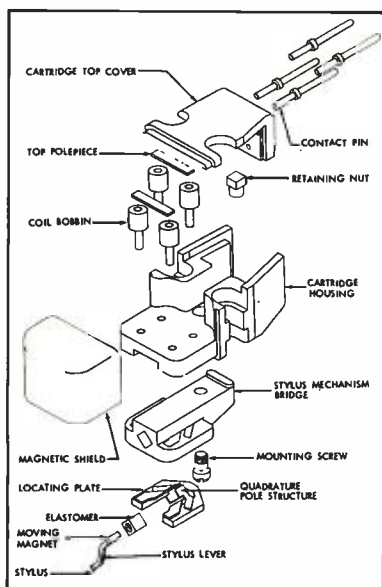

Fig. 1. Exploded view of the pickup.
Now to turn to Figs. 1 and 2 and an explanation of this form of a compatible stereophonic sound system. Referring first to Fig. 1, the circuits between the microphone pickups and their corresponding radio or TV transmitters are
Fig. 1. (below) Block schematic of Precedence system for two channels. Fig. 2 (right) The same system may be expanded to permit transmission of three compatible channels.
The Audio-Empire moving magnet pickup contains four vertical poles which mount coils as seen in Fig. 1. These vertical poles are mated with a quadrature pole structure, (A) in Fig. 2, designed to develop independent outputs from F_1 and F_2 modes of motion.